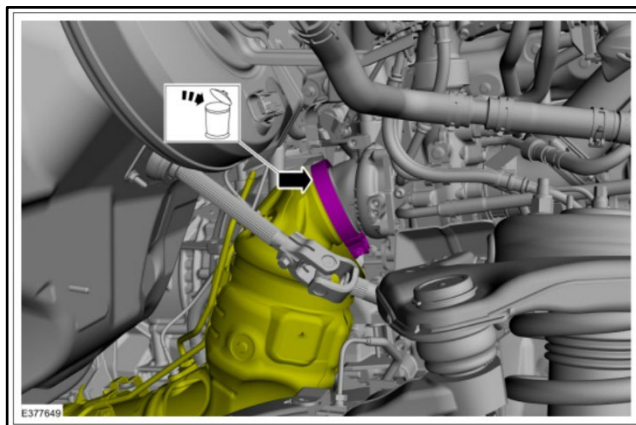

FIGURE 11
11. Position the DPF V-band clamp over the DPF. Do not tight the clamp at that this point. Refer figure 11.